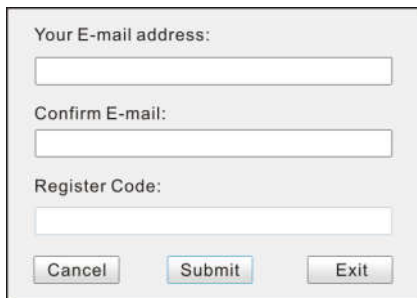

Figure 7-3
3. Click [Device Upgrade] to enter the sign-up page. Enter the information and click [Submit] (refer to figure 7-3).